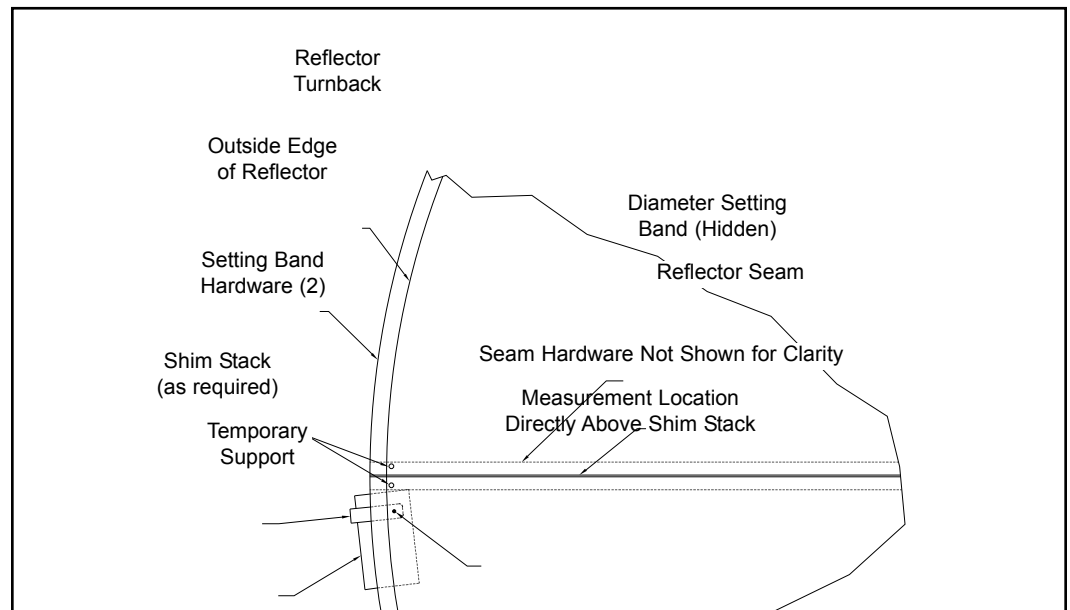

Figure 31
Temporary supports should be positioned as shown in Figure 31, close to but not interfering with diameter setting bands.
Referring to Figure 31, mark the measuring location at each of the six temporary support locations with a small dot (use felt tip marker) to be used as reference point in subsequent measurements.
- Step 9** Shim each location as required to level the reflector (see Figure 31).
- Step 11** Continue to measure, record, compare and shim any low temporary support location points until all (6) temporary location points are within 0.030 inches [0.75 mm] elevation from each other.